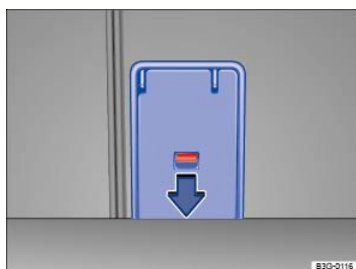

Fig. 156 In the luggage compartment: Opening the pass-through.
- **OR:** Open the pass-through from the luggage compartment. Press the release lever ⇒ *Fig. 156* in the direction of the arrow and push the cover forward.